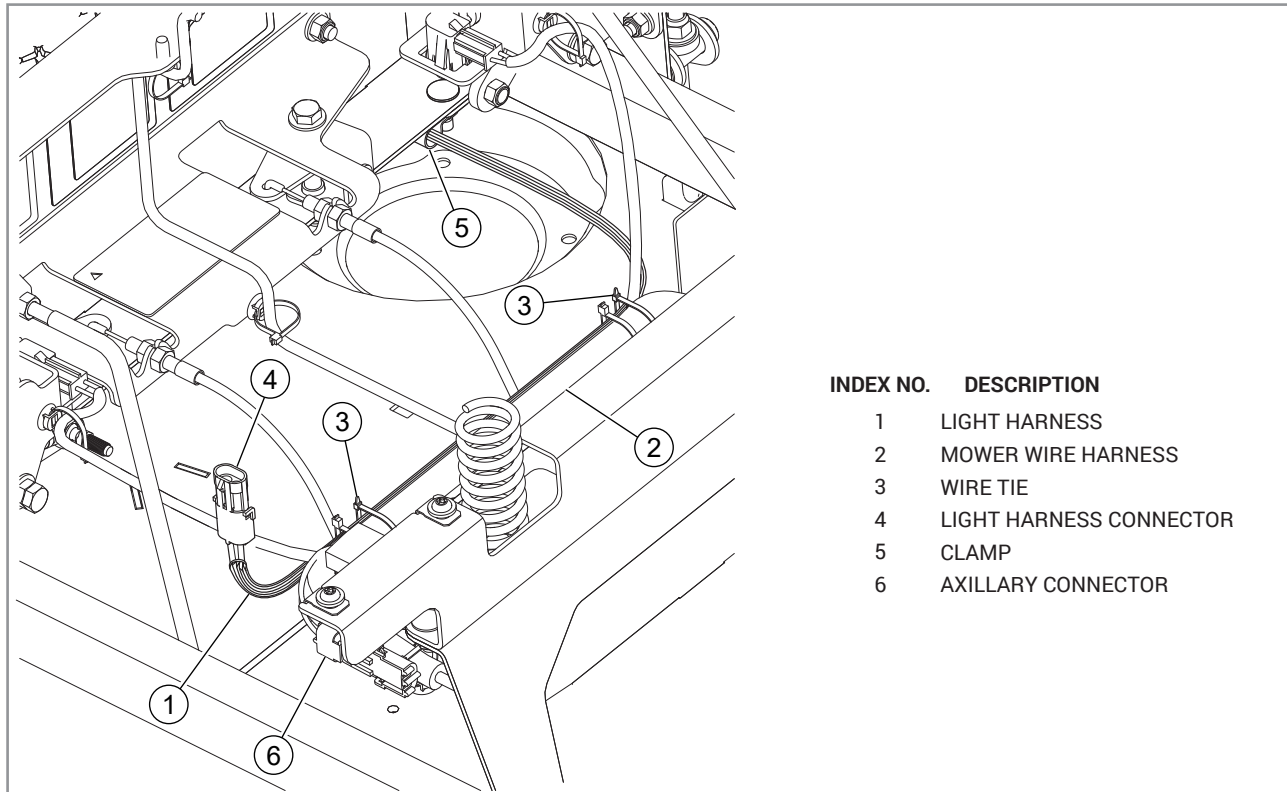

FIG. 5
11. Rotate the mower seat forward and route the light harness along the main wire harness. FIG. 5
12. Attach the light harness to the mower wire harness with wire ties. Do not tighten at this time. FIG. 5